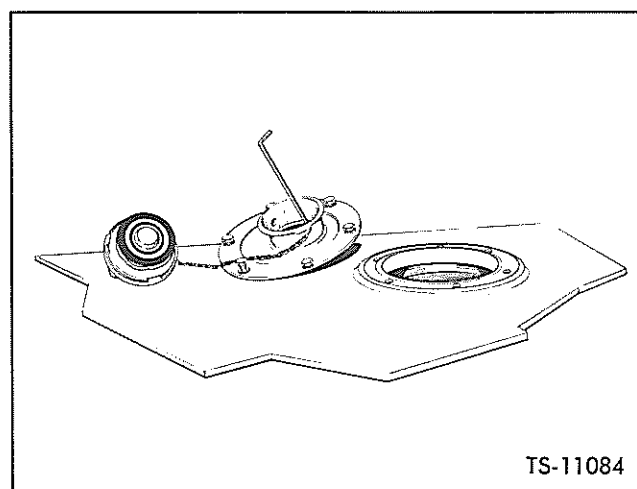

Fig. 30. Remove Reservoir Cap, Dipstick and Hand Hole Cover
1. Loosen reservoir cap slowly to relieve pressure in hydraulic reservoir. Remove reservoir cap, dipstick, and hand hole cover as shown in Figure 30.